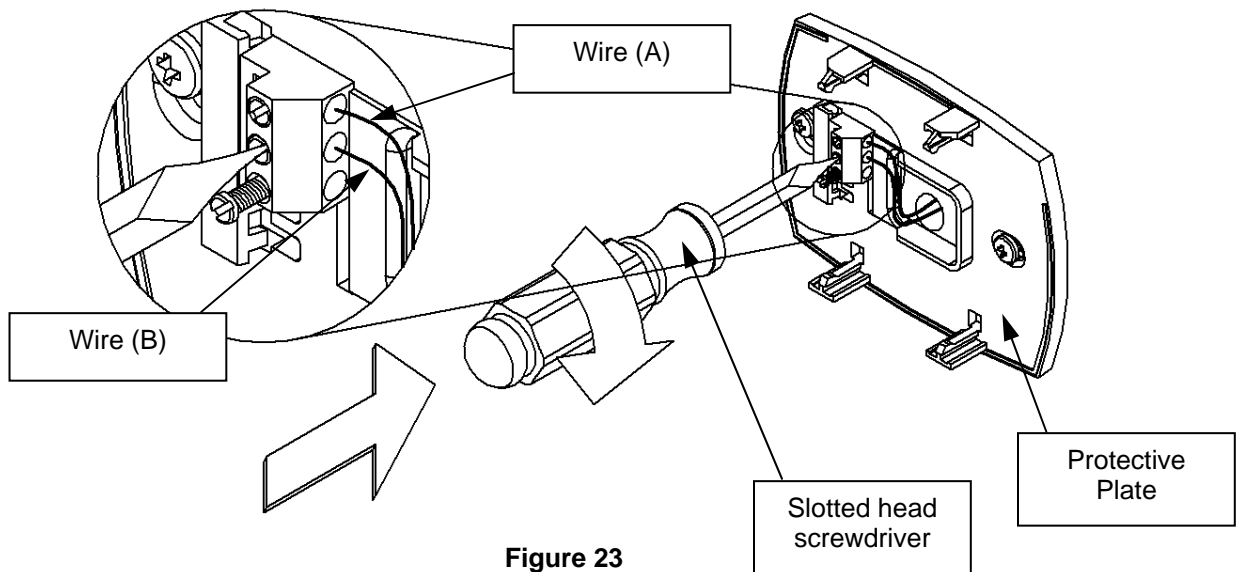

Figure 23
Step 18: Tighten the slotted screw in the middle terminal location on the Protective Plate. This is shown in Figure 23.